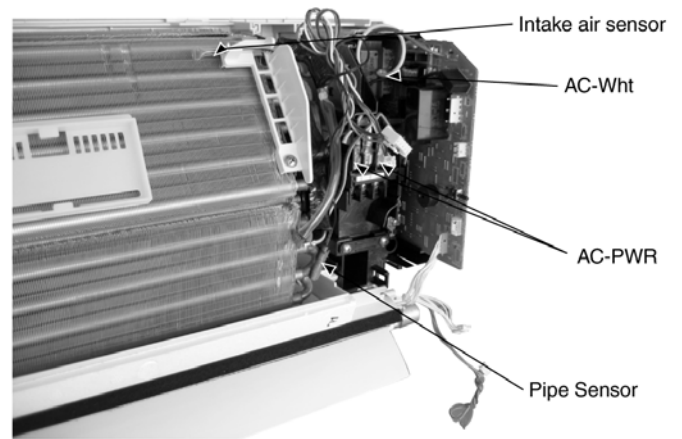

Fig. 6
- Press the hook to the right then take out the PCB (Fig.6)
- Remove Ry-Pwr connector (black and brown) from the terminal board. (Fig.6)
- Remove AC-Wht connector from the PCB. (Fig.6)